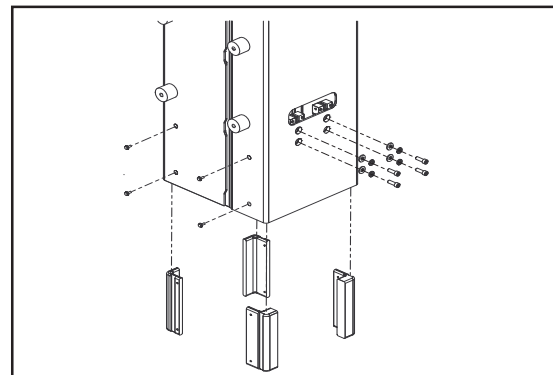

Figure 5-37. Mast 3 Installation Procedure
3. Install the inner chain mounting bolts. (Use Loctite 242 or equivalent on the mounting bolts and torque to 200 lb-in) See Figure 5-37.